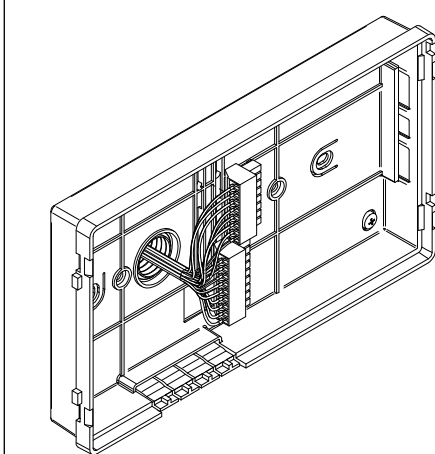
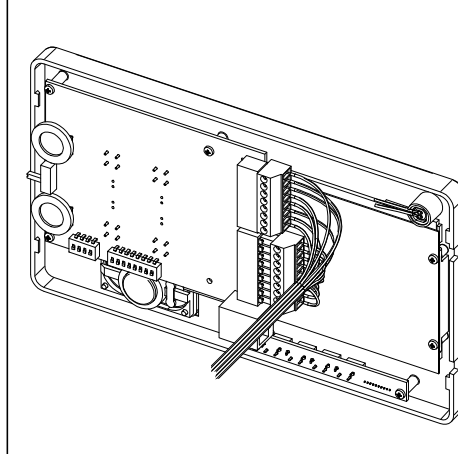

Fig. 4
Fig. 5
4. As shown in **Fig. 4**, connect the wires to the removable terminals following the provided installation diagram. Connect the terminal blocks to the electronics contained in the cover as shown in **Fig. 5**. Test system before closing.